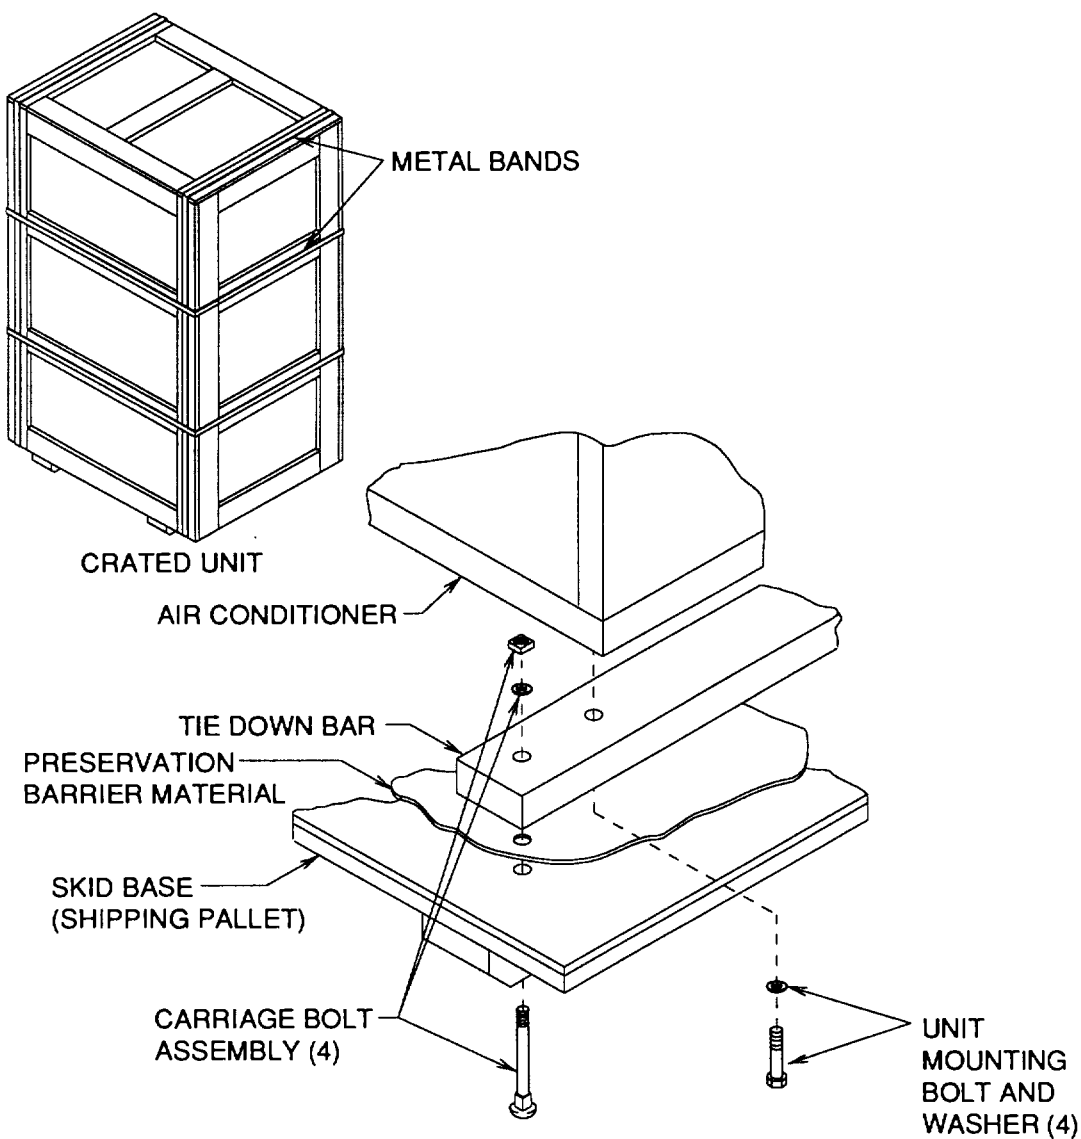

Figure 4-2. Unpacking
b. Unpacking. (See figure 4-2.)
(1) Normally, the packaged air conditioner should be moved into the immediate area in which it is to be installed before it is unpacked.